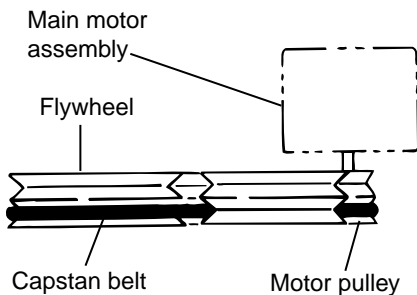

Fig. 6
2. While raising the capstan motor, remove the capstan belts from the motor pulley. (See Fig. 6)
**Caution:** Be sure to handle the capstan belts so carefully that these belts will not be stained by grease and other foreign matter. Moreover, these belts should be hand while referring to the capstan belt hanging method in Fig. 6 and 7.